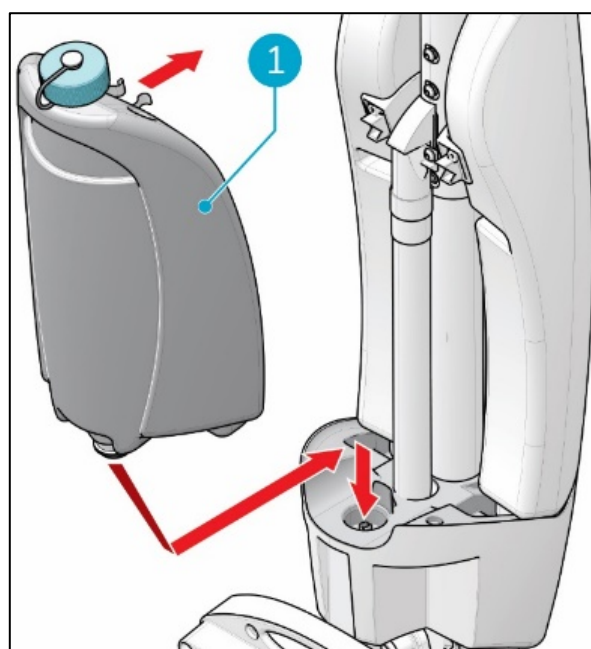

Figure 14
5. Put the tank on the i-mop XXL basic with the valve first (Figure 14, pos 1).